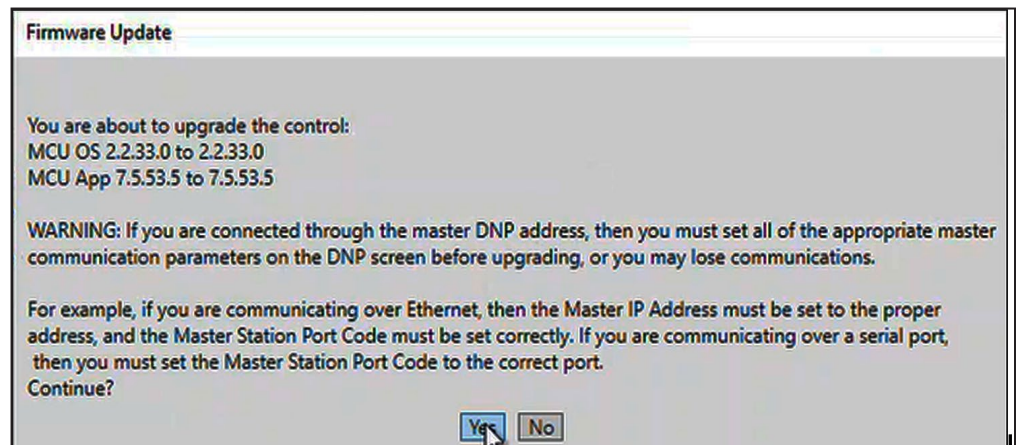

Figure 35. The Firmware Update dialog box.
**STEP 15.** In the Firmware Update dialog box, click on the **Yes** button. See Figure 35. Selecting "No" will end the **Downgrade** process.